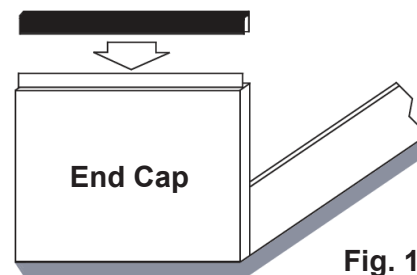

Fig. 1
- Separate the legs of the "no-skid" foot cover strips and place them over the exposed bottom edge of each end cap. (Refer to Fig. 1)